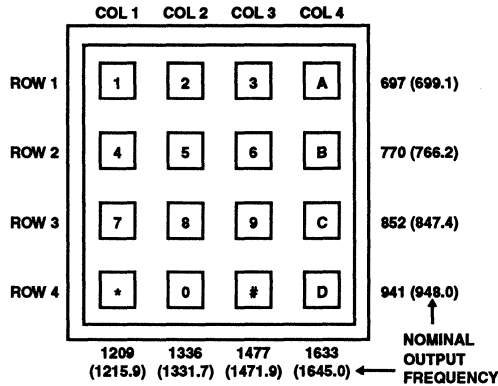

FIGURE 1. BELL AND NOMINAL OUTPUT FREQUENCIES (IN PARENTHESIS) FOR 3.579545MHZ CRYSTAL
8. Refer to Figure 1 for standard DTMF frequencies.